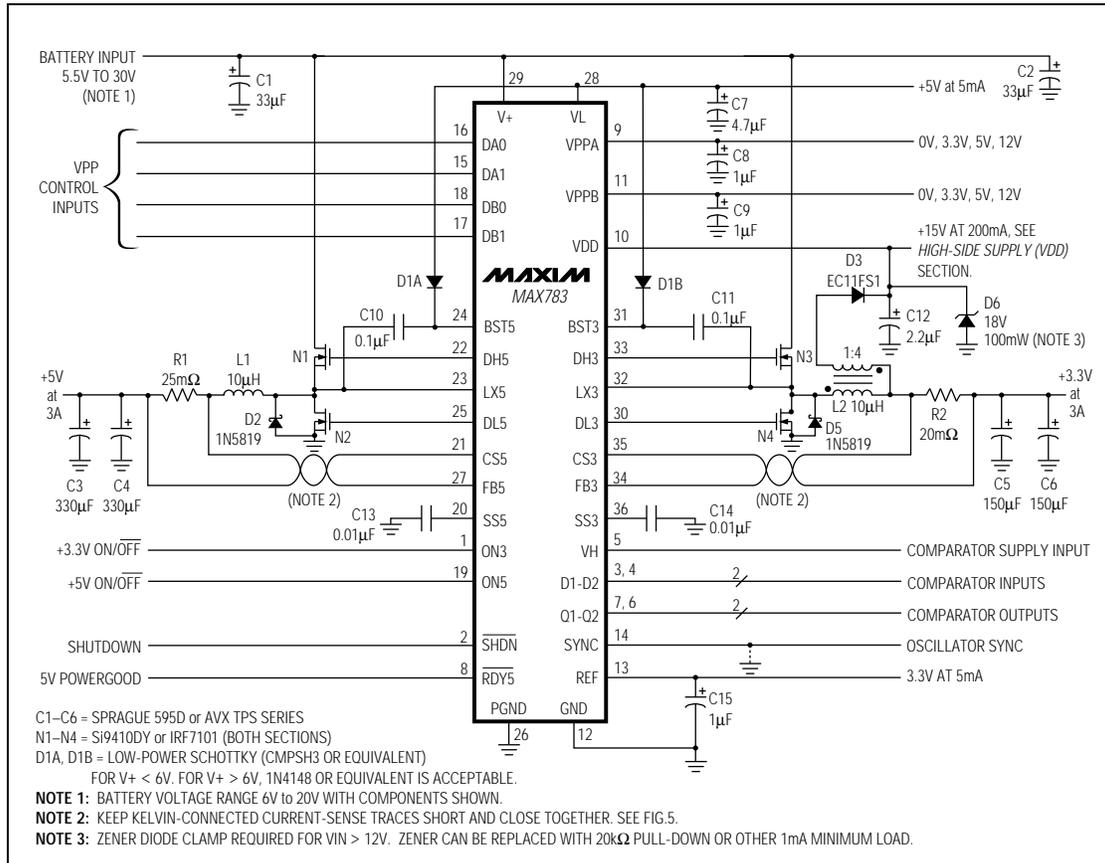
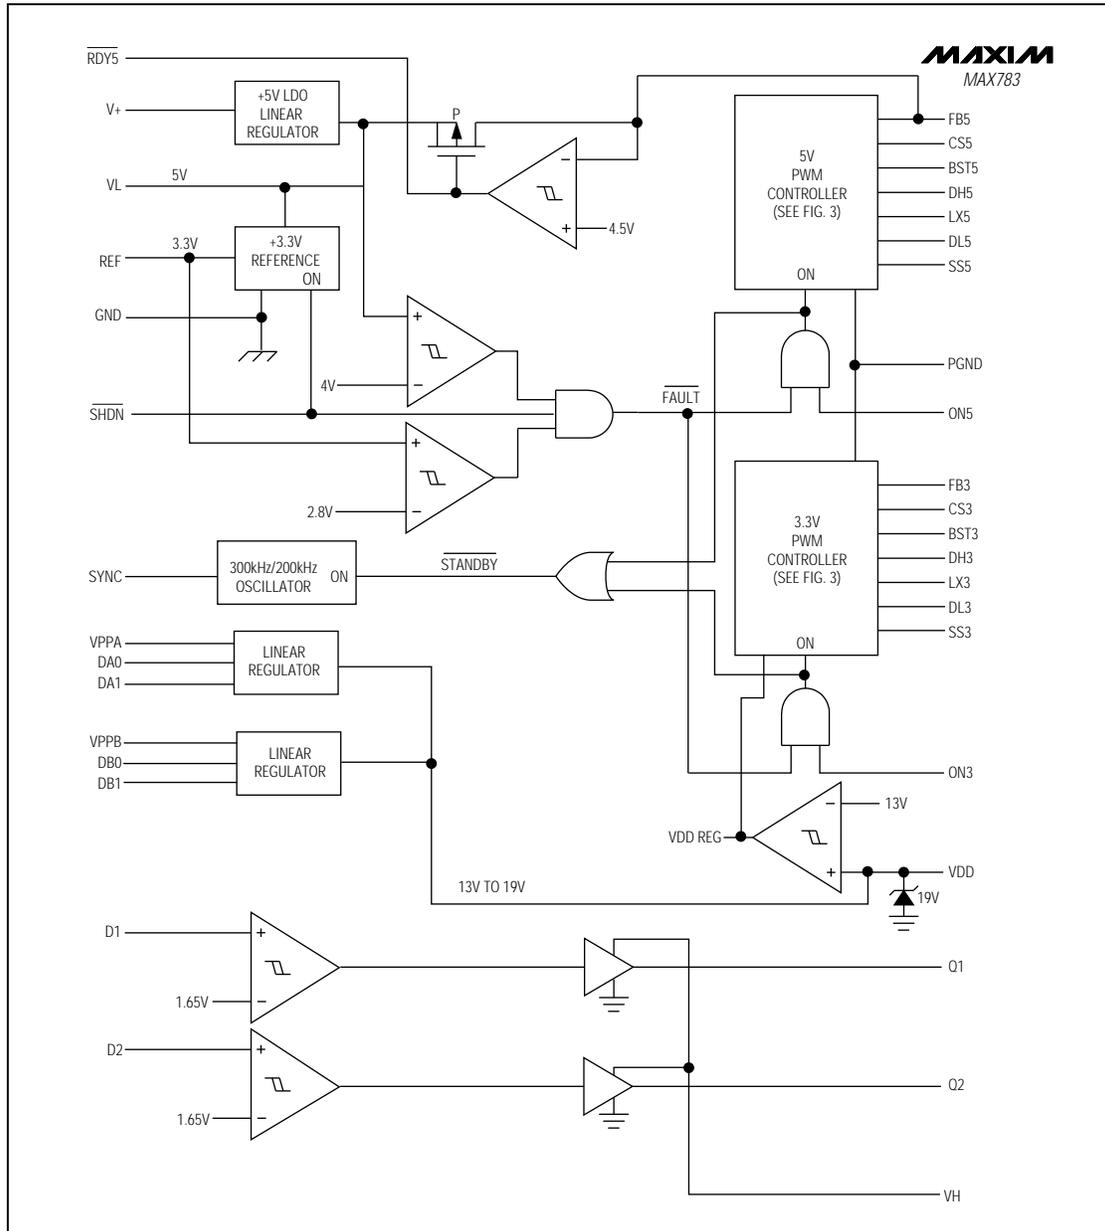

Figure 1. Standard Application Circuit
Figure 2. Block Diagram
(Circuit of Figure 1, Transpower TTI5902 transformer,  $T_A = +25^\circ C$ , unless otherwise noted.)
(Circuit of Figure 1, Transpower TT15902 transformer,  $T_A = +25^\circ\text{C}$ , unless otherwise noted.)
The MAX783 converts a 5.5V to 30V input to six outputs (Figure 1). It produces two high-power, PWM switch-mode supplies, one at +5V and the other at +3.3V. The two supplies operate at either 300kHz or 200kHz, allowing for small external components. Output current capability depends on external components, and can exceed 6A on each supply. Two 12V VPP outputs, an internal 5V, 25mA supply (VL) and a 3.3V, 5mA reference voltage are also generated via linear regulators (Figure 2). Fault-protection circuitry shuts off the PWM and high-side supply when the internal supplies lose regulation.
The +5V supply is generated by a current-mode PWM step-down regulator using two N-channel MOSFETs, a rectifier, plus an LC output filter (Figure 1). The gate-drive signal to the high-side MOSFET, which must exceed the battery voltage, is provided by a boost cir-
cuit that uses a 100nF capacitor connected to BST5. The +5V supply's dropout voltage, as configured in Figure 1, is typically 400mV at 2A. As  $V_+$  approaches 5V, the +5V output falls with  $V_+$  until the VL regulator output hits its undervoltage lockout threshold at 4V. At this point, the +5V supply turns off.
Figure 1's predesigned application circuit contains the correct component values for 3A output currents and a 6V to 20V input range. Use the design procedure that follows to optimize this basic schematic for different voltage or current requirements.